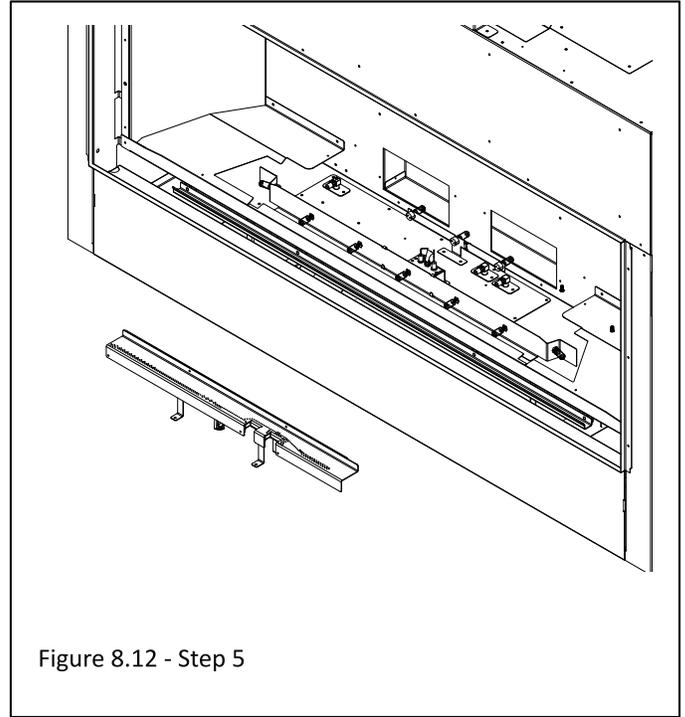

Figure 8.12 - Step 5
5. Remove the back media tray that covers the back ember bed light kit via (2) screws. Figure 8.12.